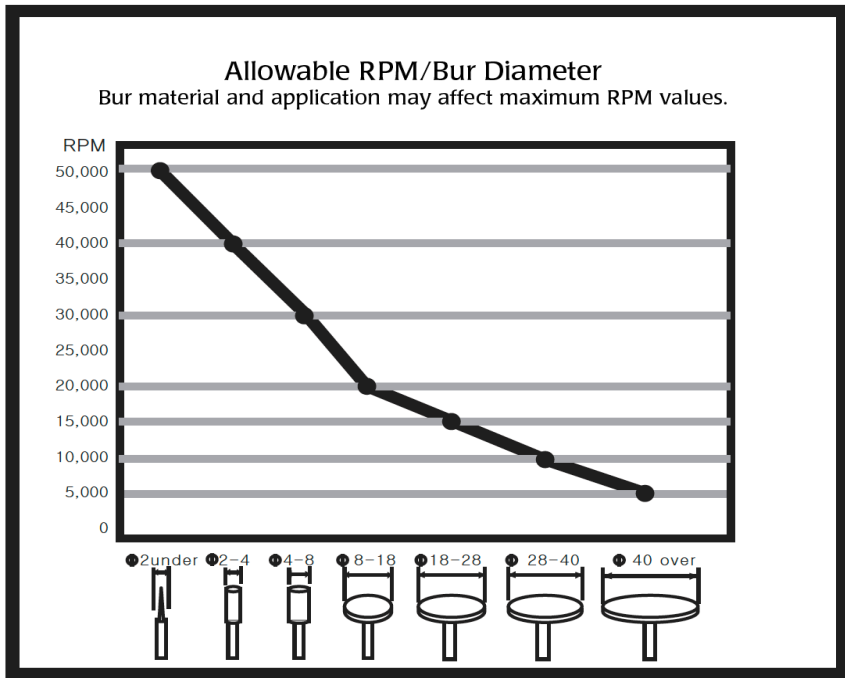

Fig. 4—Recommended maximum RPM/bur diameter.
- Avoid using a rusty or bent bur that may cause excessive wear of bearings. Refer to the safety recommendations (operating speed and precautions) for the bur (“**Fig. 4—Recommended maximum RPM/bur diameter.**” on page 4).